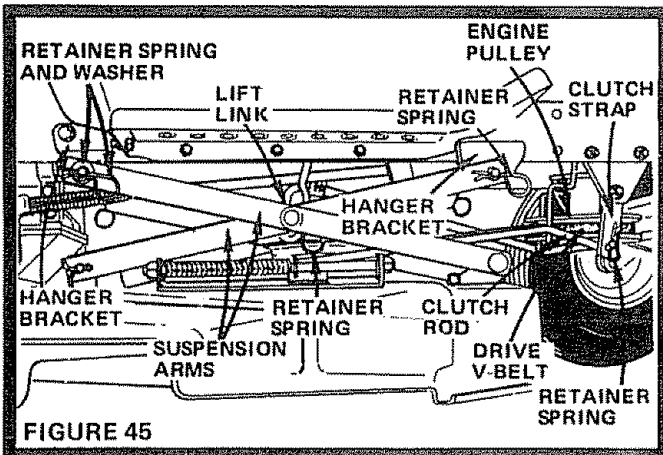

FIGURE 45
2. Remove Drive V-Belt from Engine Pulley (Fig. 45).